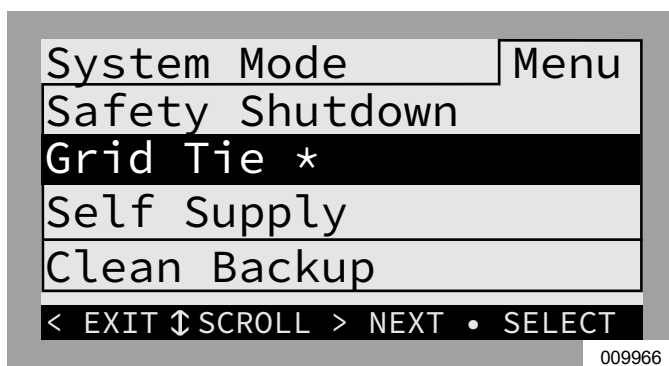

Figure 6-3. Selecting System Modes (1 of 4)
2. See Figure 6-3. A list of system modes will be displayed with the current mode marked with an asterisk.
NOTE: The list of system modes may not include all those shown in Figure 6-3.